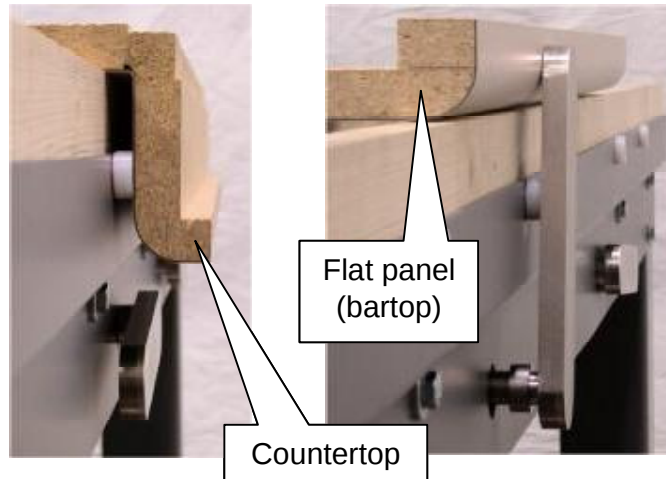

Figure 13
1. Place the top to be cut upside down onto the wood supports with the backsplash to the front of the machine and push the backsplash tight against the bumpers (see Figure 13). For flat panels (bartop), rotate the stop arms to the up position (see Figure 13) and pull the edge of the flat panel (bartop) against the stop surface.